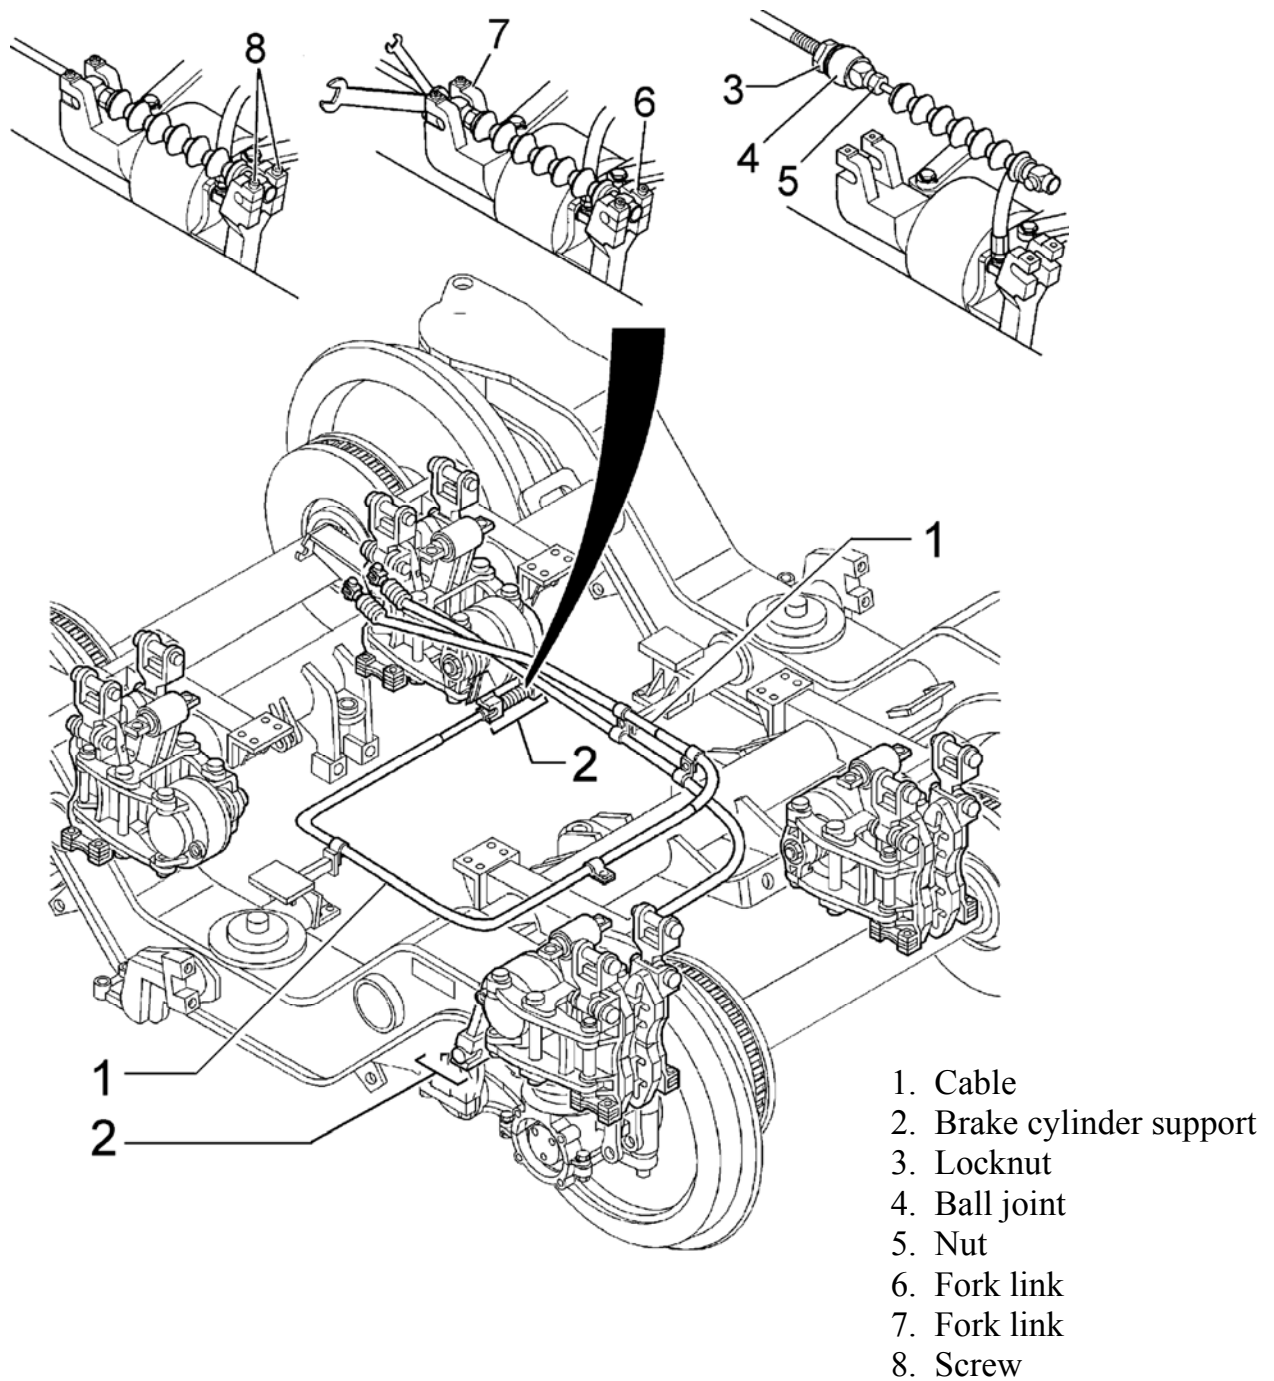

FIG. 4.35 HAND BRAKE CABLES REMOVAL 2/3
Then disconnect the other ends of the cables (1 - FIG. 4.35) from the brake cylinders (2): unscrew the screws (8) from both supports; rotate the locknut (3) and then the ball joint (4) until it touches the locknut (3) again. Unscrew the nut (5) and unlink the cable from both fork links (6) and (7).